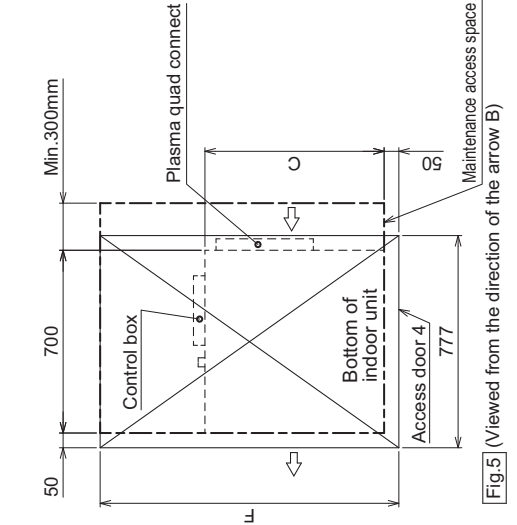

Fig.5 (Viewed from the direction of the arrow B)
• Create access door 4 below the control box and the unit as shown in Fig.5.